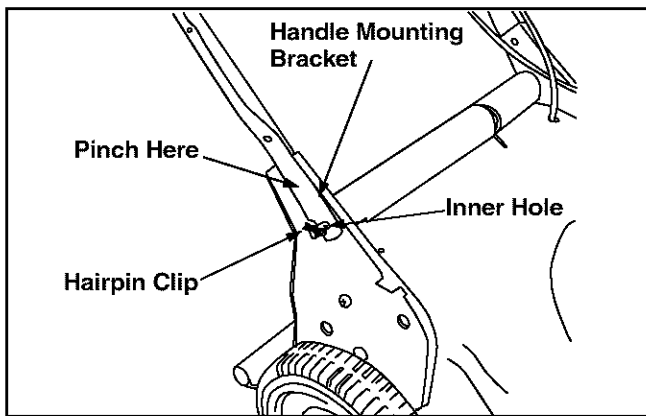

Figure 4
- Pinch the lower handle against the handle mounting bracket using pliers. See Figure 4.